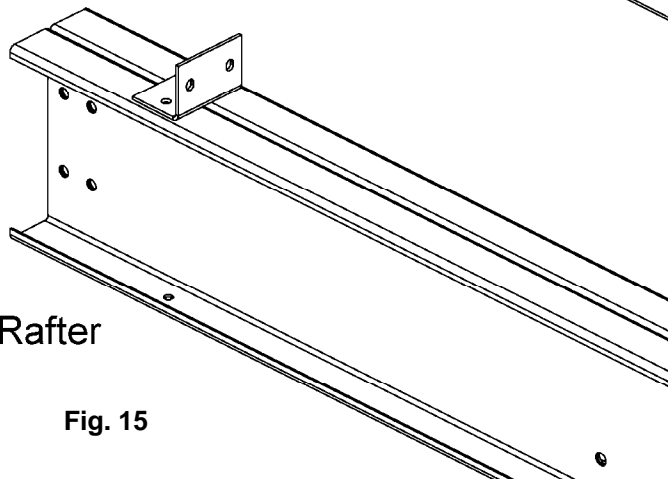

Fig. 15
Peak Z-ring brackets attach to end of rafter using 3/8 x 1" bolt(s) and 3/8" flange nut(s). When assembling 15,000 lb. roofs, brackets attach to only one (1) rafter as opposed to two (2) on a 30,000 lb. roof. For 15,000 lb. roof, if C-shaped rafter opens to left, then left hole in Z-ring bracket is used. If C opens to right, then right hole in Z-ring bracket is used. **IMPORTANT:** For proper roof sheet alignment, attach Z-ring brackets as shown in Fig. 15.